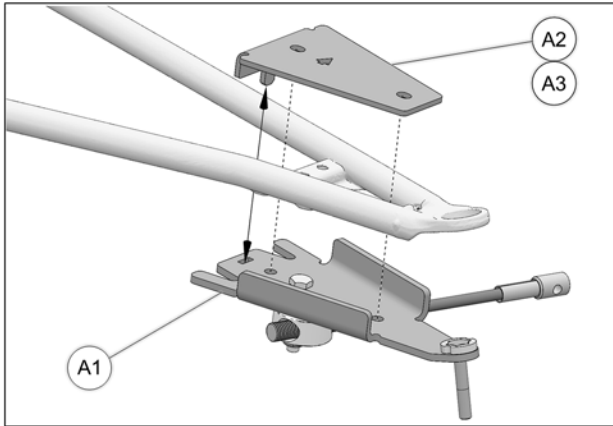

Fig. 22
11. Position bottom part of anchor bracket assembly (A1) under lower suspension arm. Position bracket cover (A2-A3) over suspension arm. Align holes and insert the cover's tenon in the mortise cut in the bottom part. Refer to Fig. 22